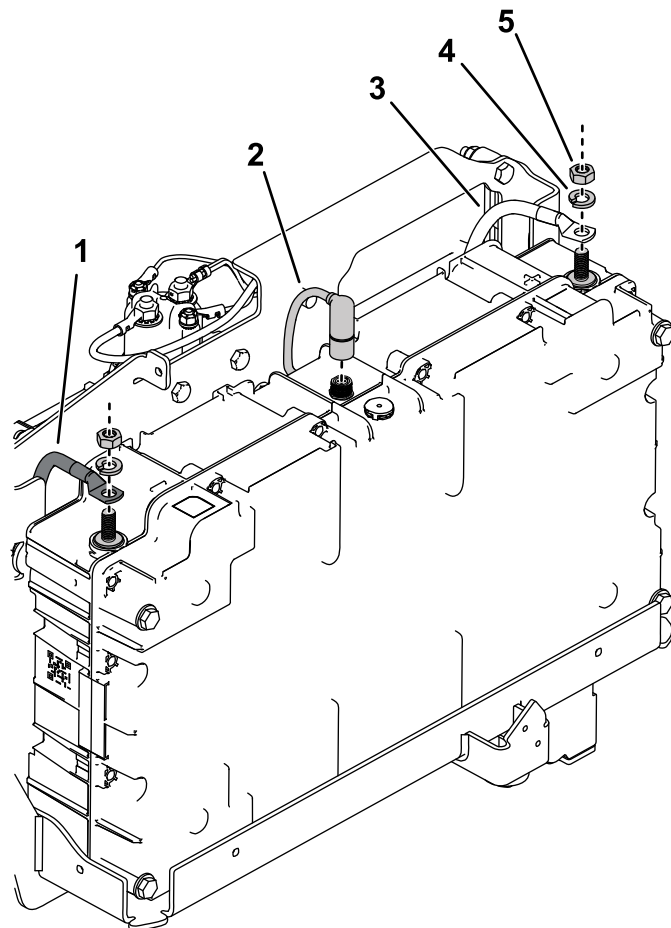

Figure 9
- Connect the controller cable to the connector at the top of the battery (Figure 9).
- Connect the positive (red) cable to the positive (+) battery terminal and secure it with a lock washer and a hex nut as shown in Figure 9; torque the hex nut to 9 N·m (6.6 ft-lb).
- Connect the negative (black) cable to the negative (-) battery terminal and secure it with a lock washer and a hex nut as shown in Figure 9; torque the hex nut to 9 N·m (6.6 ft-lb).